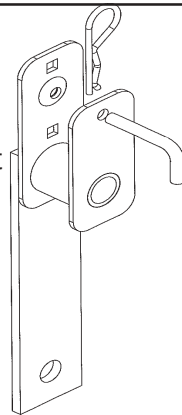
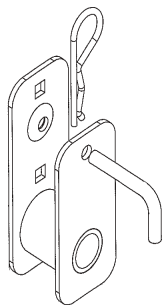

Figure 22
Figure 23
16. Install Optional Knife Bracket Kit IF Ordered. This kit is designed to mount an extra (Replacement Cutter Bar Assembly) mounted to the frame rail to have with the tractor as a replacement part. The kit will not include the spare cutter bar (Shown in Figure 24 as illustration only). There are two Knife Brackets, a knife bracket weldment for Front Mount (See Figure 22 & 24) which bolts to the frame rail and a knife bracket Assembly (See Figure 23 & 25) which bolts to the rear on the cab mount support or to the ROPS on the non cab model. **IMPORTANT NOTE:** The Knife bracket is optional equipment and may not have been ordered. The spare knife bar assembly is not included in the knife bracket option and must be ordered separately if wanted.